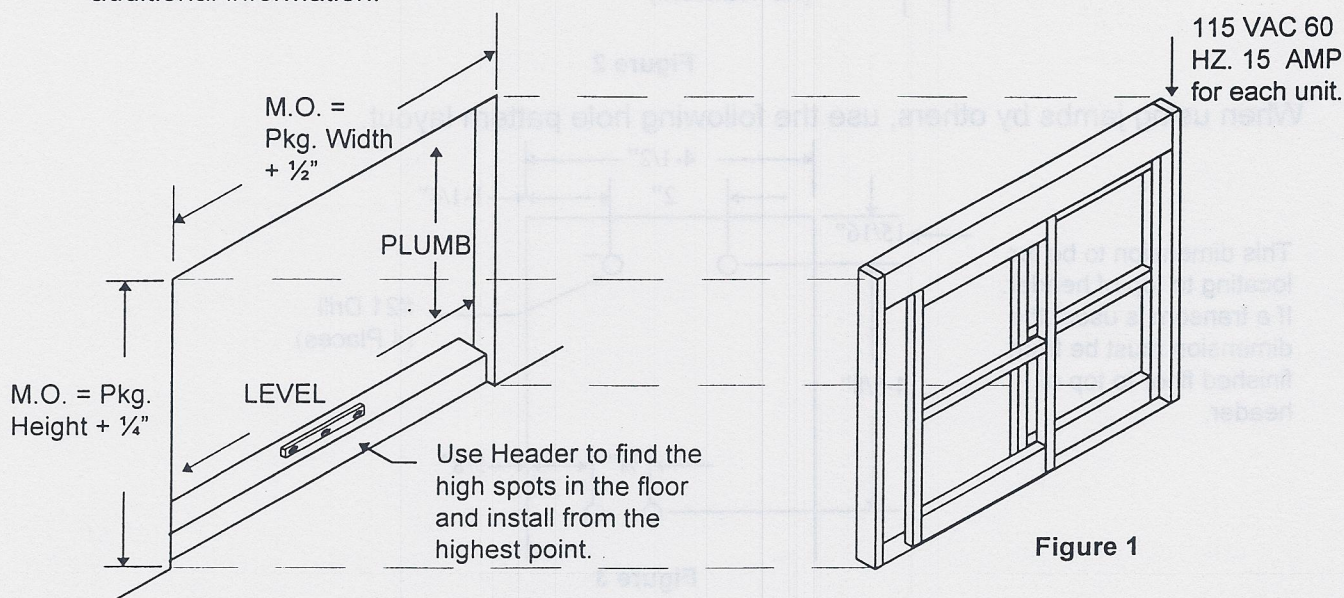

Figure 1
2. Check the door opening for plumb and level. The floor must be checked for any high spots. The header can be used for the straight edge to detect any variation in the floor surface. Fill the low areas to make the floor level. See the **figure 1** below for additional information.